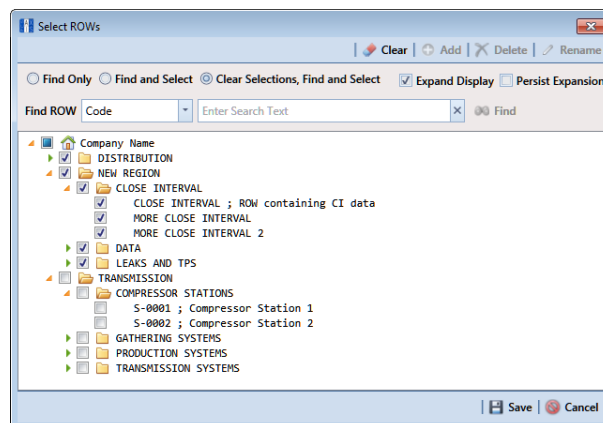

Figure 7-137. Select ROWs
- 1 Select one or more pipeline segments in the *Select ROWs* window (Figure 7-137). Click  **Save** to close the window.